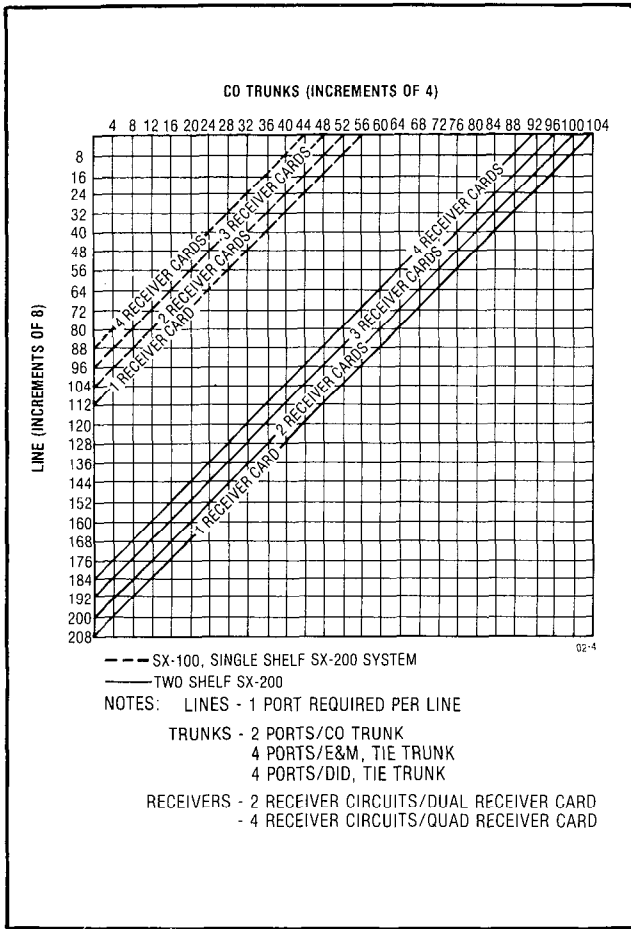

Fig. 2-1 Maximum Line and Trunk Configuration
division switching and stored program control. The SX-200 has a capacity of 256 ports. Two hundred and eight of the ports are available for assignments to lines, trunks and additional receivers. The remaining 48 ports are reserved for common control functions. Figure 2-1 shows the maximum line and trunk configuration. The SX-200 is electrically compatible with most existing extension, key telephone, Private Branch Exchange (PBX) and Central Office (CO) equipment and provides: